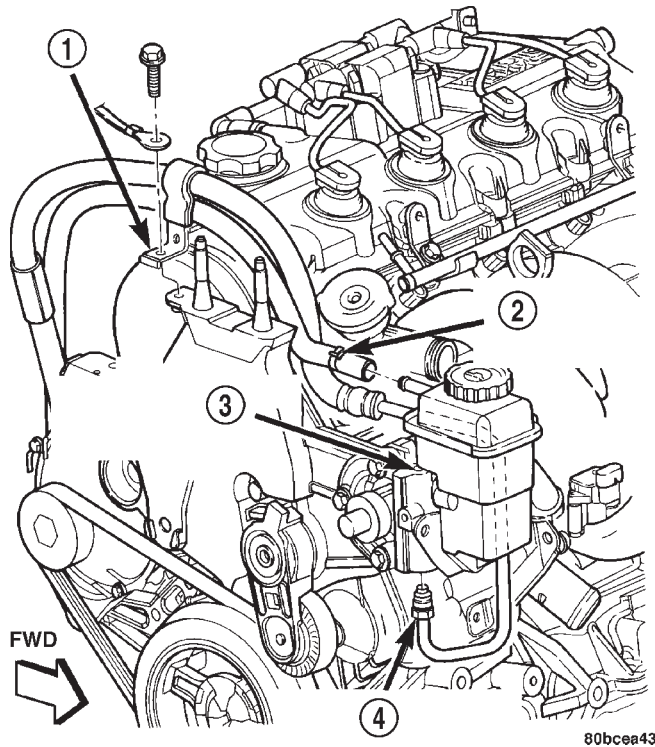

Fig. 2 Power Steering Hoses At Pump
- (1) Remove battery cable from the negative post on the battery.
- (2) Siphon as much fluid as possible from the power steering fluid reservoir.
- (3) Remove the power steering pump drive belt from the power steering pump pulley. Refer to **ACCESSORY DRIVE BELTS** in the **COOLING SYSTEM** service manual group for the required removal and installation procedure.
- (4) Remove the hose clamp securing the return hose to the power steering fluid reservoir. Slide the hose off the end of the reservoir fitting. (Fig. 2).
- (5) Back out the tube nut securing the power steering fluid pressure hose to the power steering pump and remove the hose from the pump (Fig. 2).
(6) Using a lint free towel, wipe clean all open power steering hose ends and power steering pump fittings.
(7) Install a new O-ring on the end of the power steering pressure hose. Lubricate the O-ring using clean power steering fluid.
(8) Attach the power steering fluid pressure hose to the pressure fitting on the lower end of the power steering pump (Fig. 2). Thread the tube nut securing the power steering fluid pressure hose into the power steering pump pressure fitting. Tighten the tube nut to at torque of 34 N-m (25 ft. lbs.).
(9) Slide the power steering fluid return hose onto the fluid reservoir fitting (Fig. 2). Position the hose clamp so it is installed on the hose past the bead formed into the fluid reservoir fitting.
(10) Perform the POWER STEERING PUMP INITIAL OPERATION service procedure found in this section of this group to properly fill and bleed the power steering system.
(11) Check for leaks.